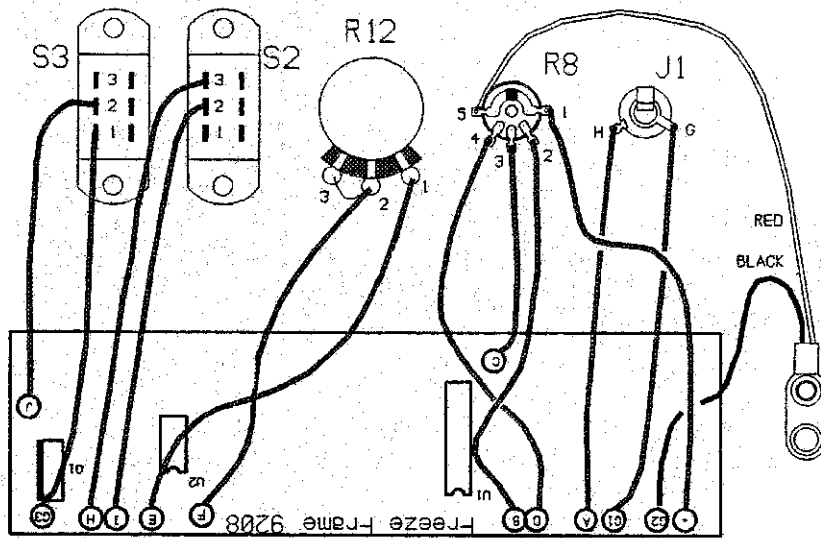

Fig 3. Wiring from circuit board to controls.
- ( ) Using the nuts and flat washers provided, mount potentiometers R8 and R12 and miniature phone jack J1 to the front panel. Orient these parts so that their lugs are pointing down as shown in Fig 3 before fully tightening the nuts which secure the parts.
We can now finish the wiring of the **FREEZE FRAME** by connecting the wires previously soldered to the circuit board to the pots and jacks as detailed in Fig 3.